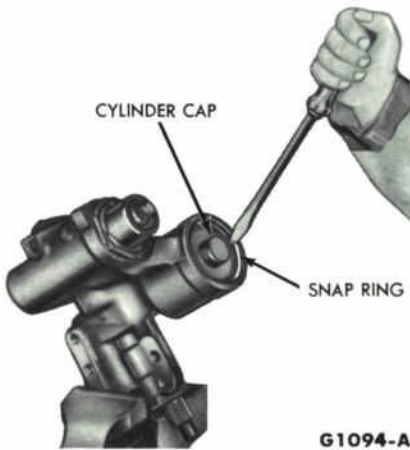

FIG. 43—Cylinder Cap Snap Ring Removal
1. Drain the hydraulic fluid from the ports, and thoroughly clean the exterior of the unit with a suitable solvent. Place the unit on a stand adapter or in a vise for disassembly purposes. Using snap ring pliers, remove the cylinder plug snap ring. Use compressed air to remove the cylinder plug. Using snap ring pliers, remove the cylinder cap snap ring and lift the cylinder cap from the piston bore (Fig. 43). Remove and discard the O-ring from the cylinder cap.